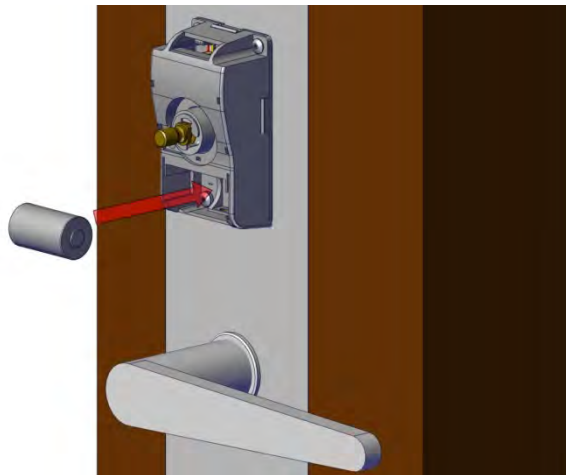

Fig. 14
**Step 6:** Install Battery. Please verify the battery is inserted in the correct polarity position. Always use new batteries installed with correct polarity (Fig. 14 and 15).